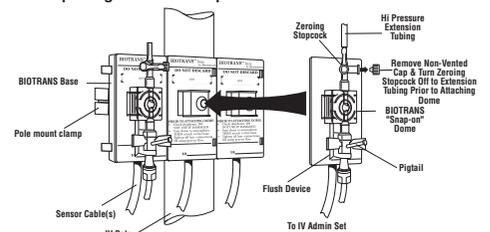

Fig. 4A: Snap Primed Biotrans™ I Dome to Sensor Base
### C. ATTACH DOME TO REUSABLE BASE (SEE Fig. 4A or 4B as applicable)
- Mate BIOTRANS™ I Dome on BIOTRANS™ I Base (SEE Fig. 4A) properly by press firmly on center of Dome with thumb or index finger. Simultaneously "clicks" will be heard when snap connectors on each side of Dome are engaged in base.